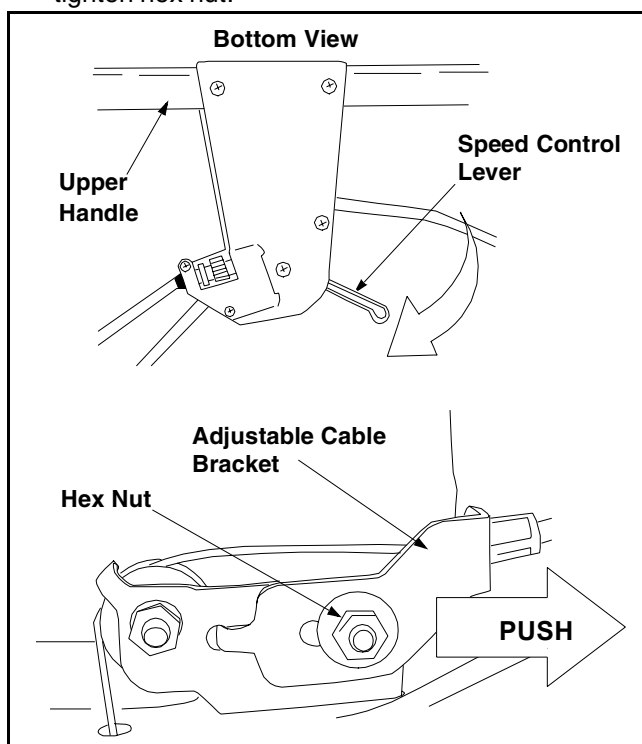

Figure 14
- Start engine and place speed control lever in the sixth speed position. See Figure 14.
- Loosen hex nut which secures the adjustable cable bracket. See Figure 14.